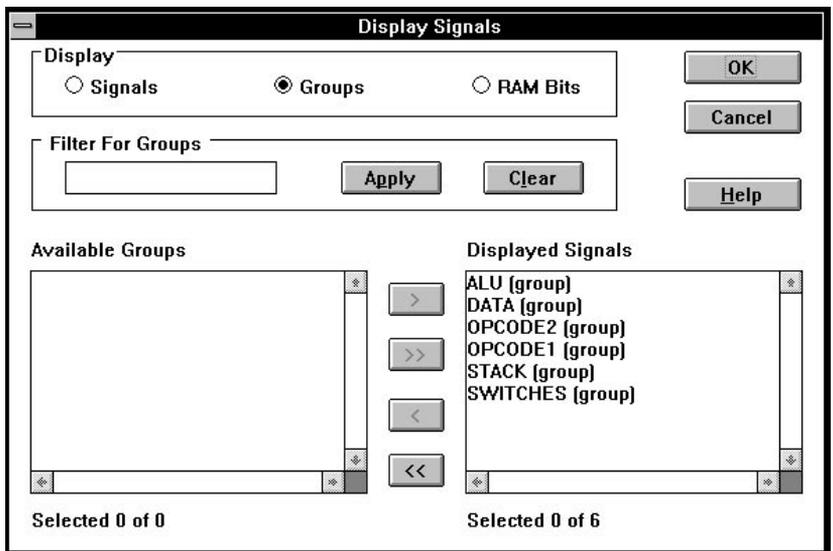

Figure 10-12 Display Signals Dialog Box
2. Use the Display Signals dialog box to include the SWITCHES, ALU, OPCODE1, DATA, and STACK groups to your list of Displayed Signals, as shown in Figure 10-12.
4. Click on the double right arrow (>>) to move the Available Groups to the Displayed Signals list, as shown in Figure 10-12.